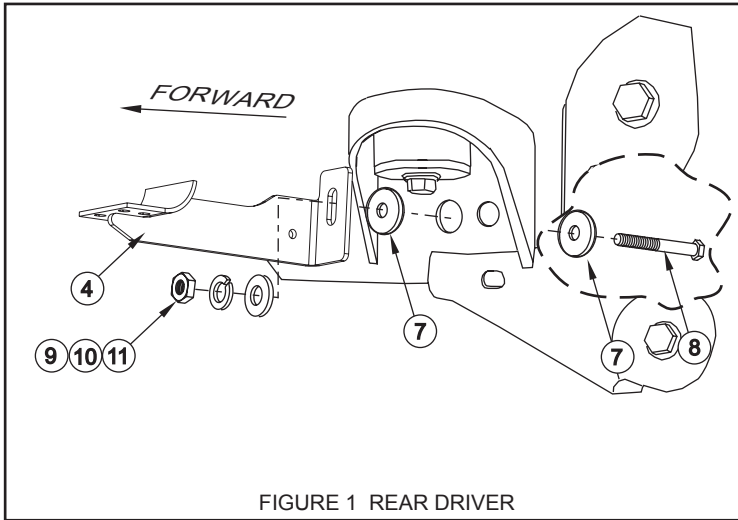

FIGURE 1 REAR DRIVER
- STEP 3.** Locate hole on drivers side of frame in front of the rear tire. **SEE FIGURE 1.** Attach the spacer washer to the 1/2-13 x 4.50" hex head bolt. Insert bolt through the backside of frame. Place another spacer washer on the front side of frame. Attach drivers side rear bracket to bolt and secure with a 1/2" fasteners. Leave loose. **SEE FIGURE 1.**